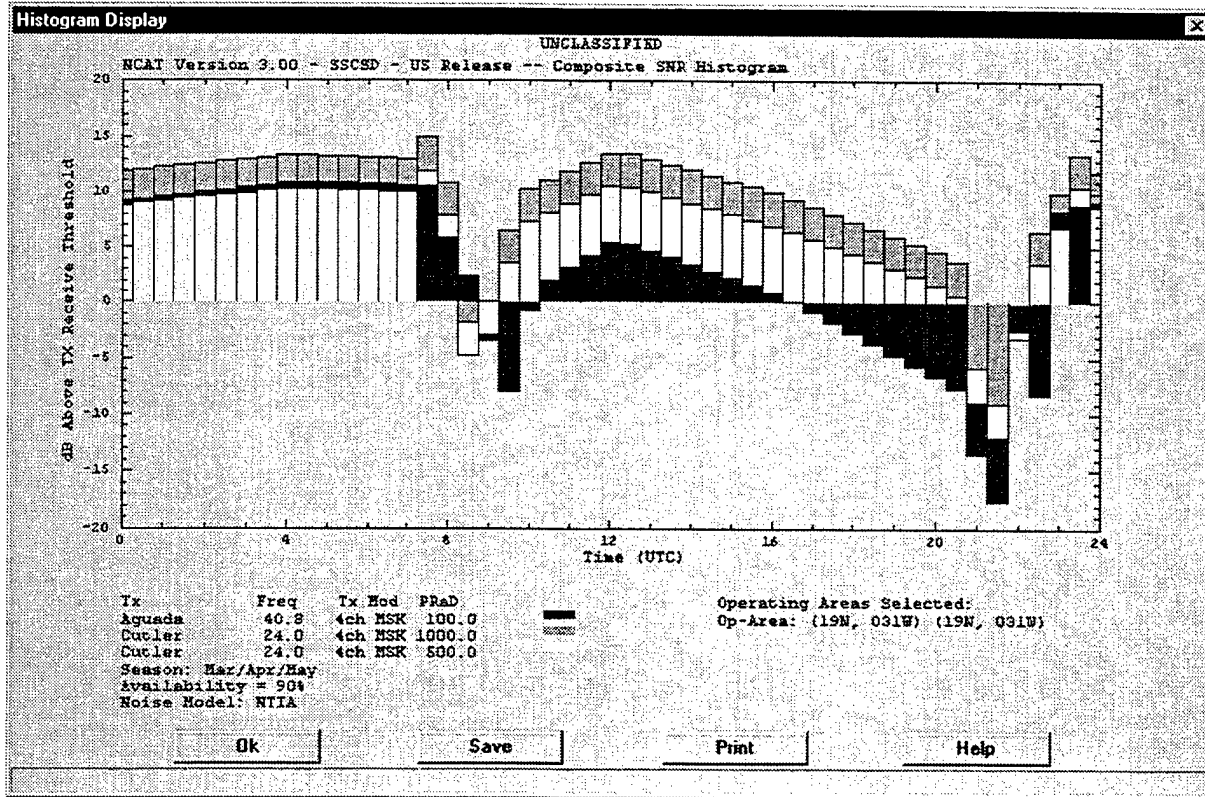

Figure 23. Example of a composite SNR chart.
- A composite SNR plot of the selected operating areas and transmitters selected. To perform a composite plot, select Run Scenario-> Show SNR Composite... Figure 23 shows an example of a composite SNR chart.